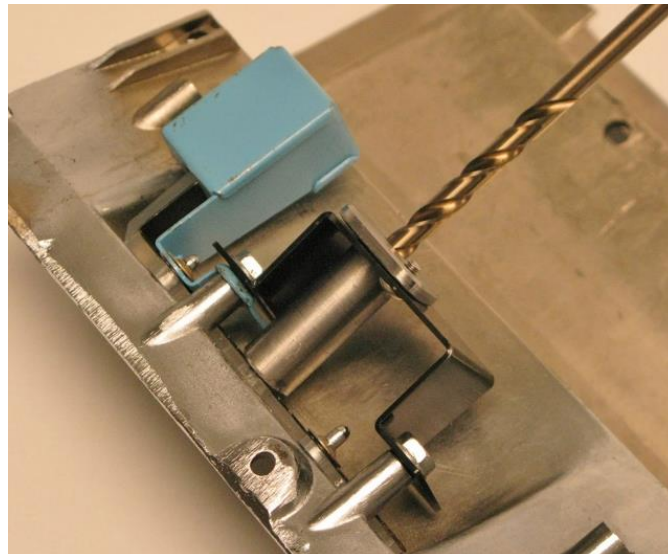

Figure 7 - Drill Center Dash Bezel
12. Using the drill guide, drill a hole into the center dash bezel up to 7/32" for the DSE wiper switch (Figure 7). Remove the drill guide.